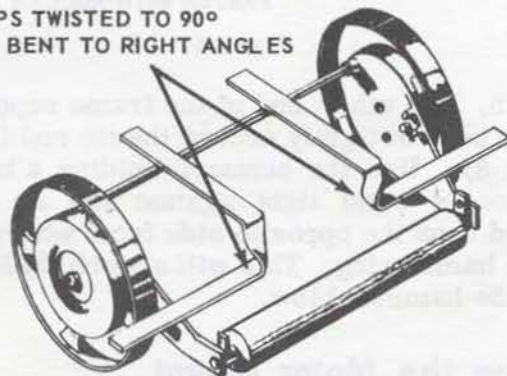

Figure 4
2. Just beneath the angle on the long end, make a short twist in both straps to 90 degrees. Be sure you twist them in opposite directions. After the twist, bend the straps to right angles again (Figure 4).